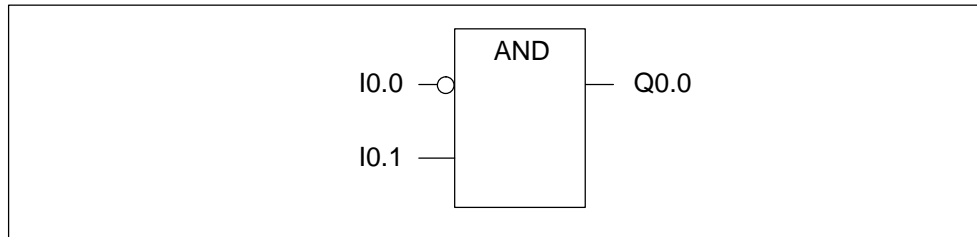

Figure 8-2 FBD Diagram of the Logical NOT Condition
- The logical NOT condition of the state of the operand or power flow driving the input is shown by the small circle on the input to an FBD instruction. In Figure 8-2, Q0.0 is equal to the NOT of I0.0 AND I0.1.
- Negation bubbles: The logical NOT condition or inverted condition of the operand or power flow is shown by the small circle on the input. In Figure 8-2, Q0.0 is equal to the NOT of I0.0 AND I0.1. Negation bubbles are only valid for Boolean signals, which can be specified as parameters or powerflow.